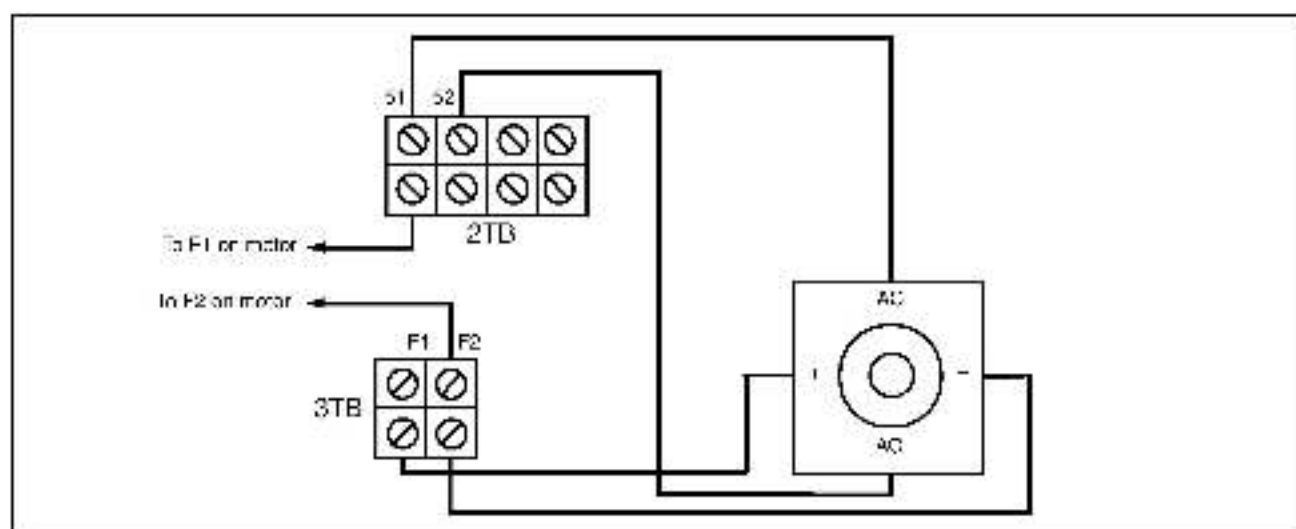

Figure 2 Connecting the Field Supply (Half Wave)
**For a half wave supply**, connect motor lead F1 to terminal 5\* on 2TB and motor lead F2 to terminal F2 on 3TB. See figure 2.